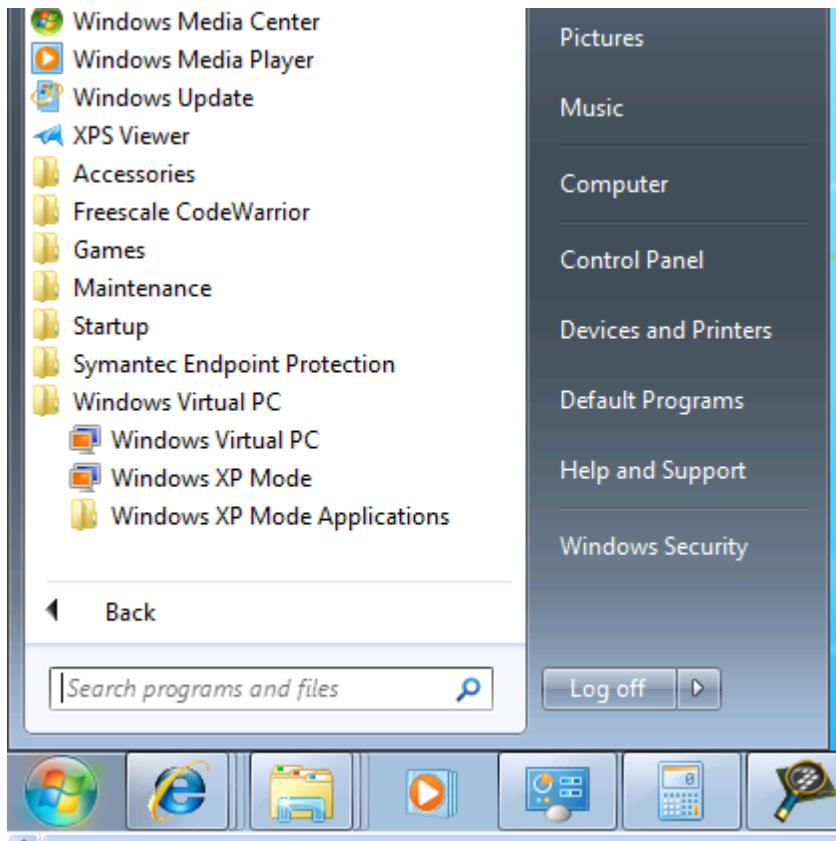

Figure 3.
- 1> Run Windows virtual PC to have Windows XP mode running first, click Start button in Windows 7, click All Programs, then click Windows Virtual PC, click Windows XP Mode. Shown as following in Figure 3.